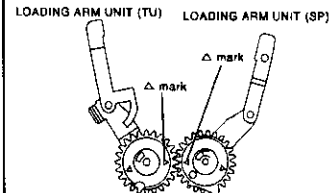

Fig. 2-33-3
4 Set the LOADING ARM UNIT (TU) shown in Fig. 2-33-3 so that the Δ mark of it matches with the Δ mark of the LOADING ARM UNIT (SP) and install it.